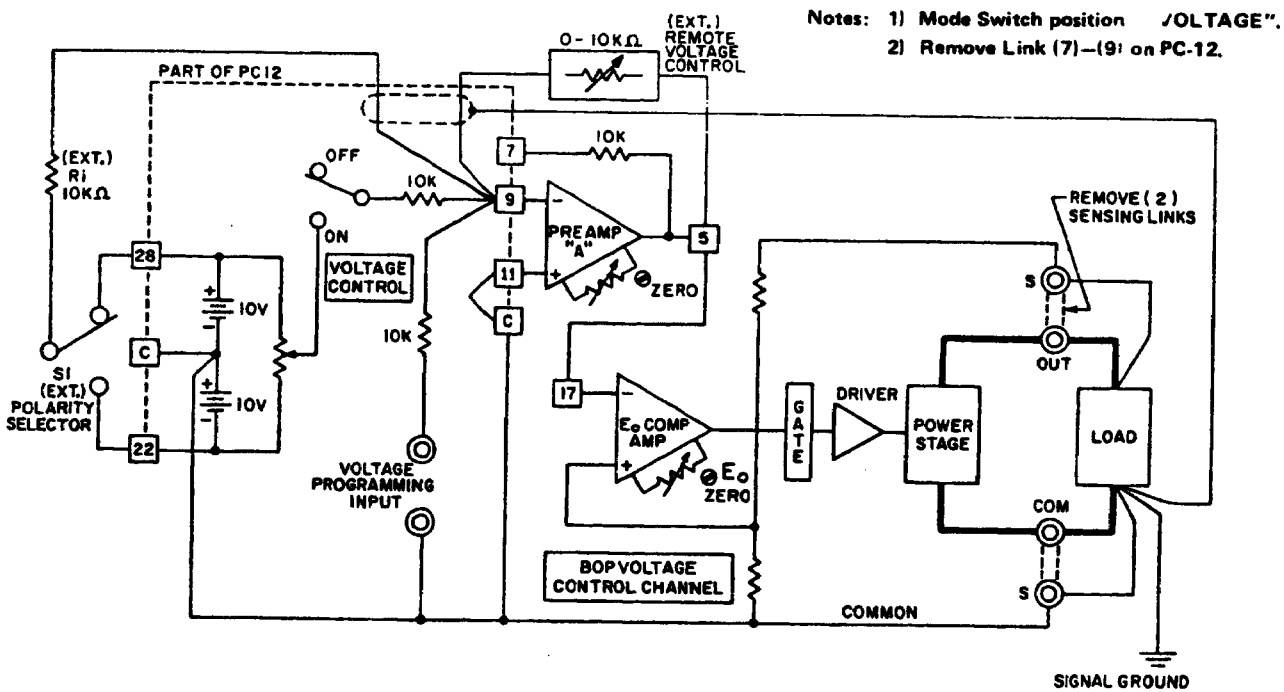

FIG. 3-5 REMOTE D-C OUTPUT VOLTAGE CONTROL BY MEANS OF A TWO-TERMINAL RESISTANCE (DECADE).
- 3-13 Two-terminal resistance control of the d-c voltage (for example, by means of a Decade Box) can be exercised as shown in FIG. 3-5.